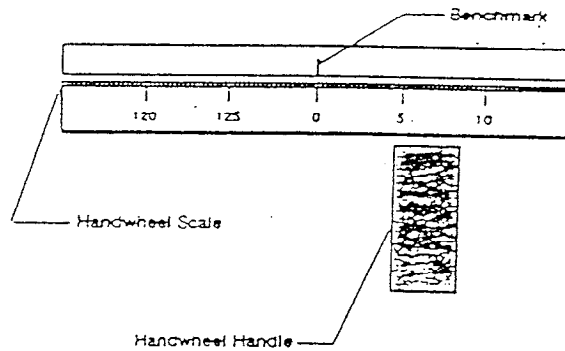

Fig. 5 Handwheel scale
E. Hold the cross-slide carriage feed handwheel to keep it from turning and adjust the handwheel sleeve until one of the reference numbers on the scale aligns to the benchmark located on the support block. See Figure 5.